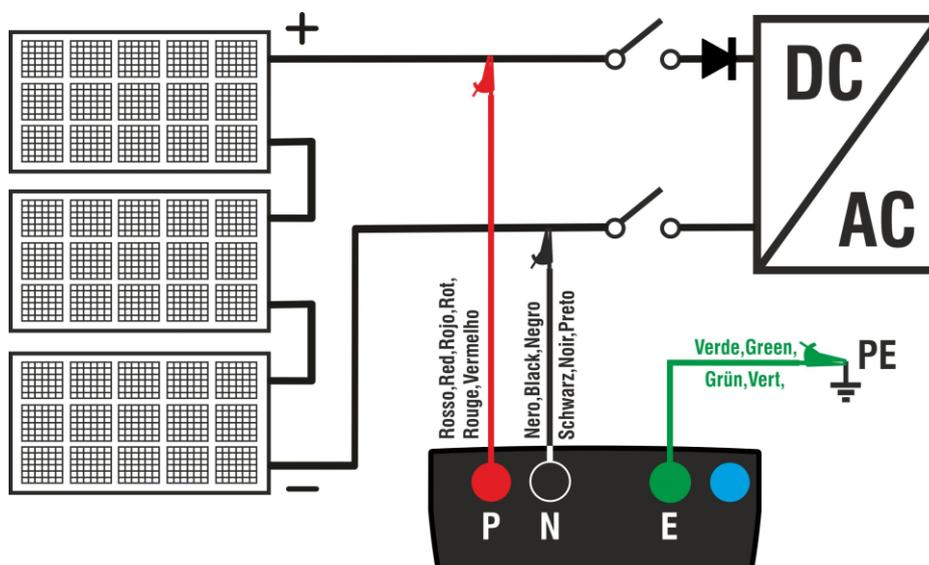

Fig. 8: Instrument connection for insulation measurement in GFL mode
- Connect the instrument to the PV string to be tested as shown in Fig. 8. Remember that any surge arresters connected to the string cables must be disconnected and that it is advisable to measure upstream of any blocking diodes
2. Connect the instrument to the PV string to be tested as shown in Fig. 8.